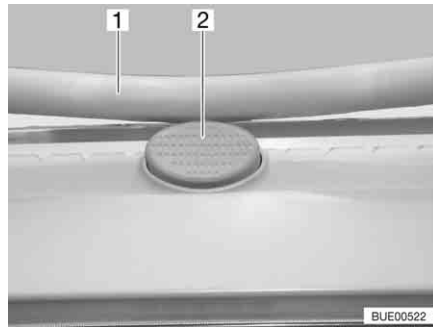

Fig. 89 Safety knob on the Heki skylight
- Press the safety knob (Fig. 89,2) and pull the bar (Fig. 89,1) down with both hands.
- Push the bar upwards with both hands until it is above the safety knob (Fig. 89,2).